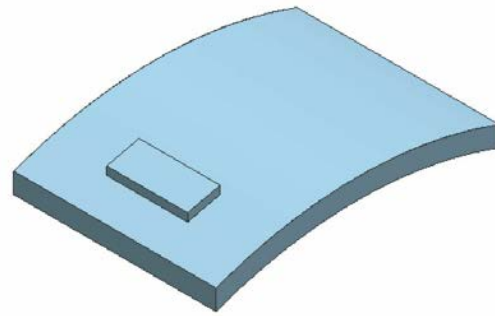

Figure 11-76 Resulting bounded plane feature
3. Choose the **OK** button from the dialog box; the bounded plane feature is created, refer to Figure 11-76.